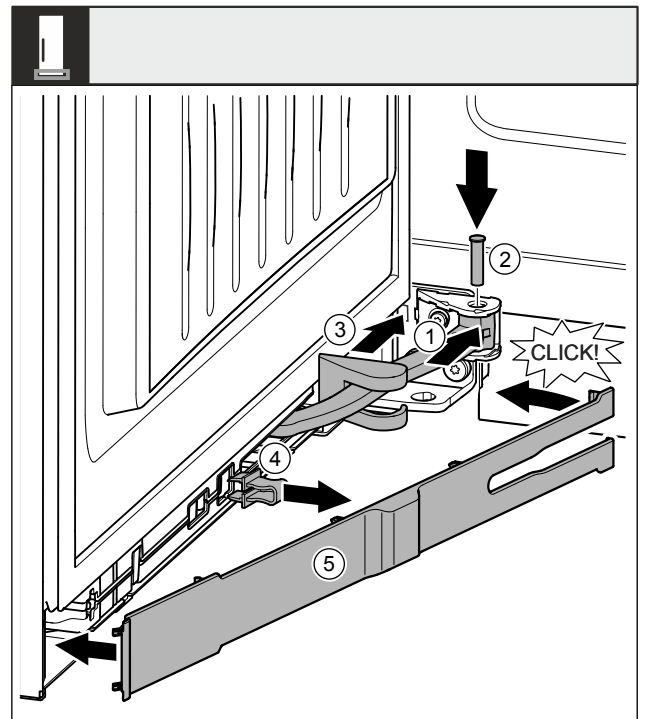

Fig. 53
- ▶ Turn the joint Fig. 53 (1) in the attachment.
- ▶ Use a screwdriver to insert the bolt Fig. 53 (2) into the attachment and the joint. Ensure that the latching cam is in the groove properly.
- ▶ Push the swap bearing block cover Fig. 53 (3) along the joint and use the attachment to fit it.
- ▶ Remove the safeguard Fig. 53 (4).
- ▶ Place the trim *Fig. 53 (5)* on the handle side and swing in.